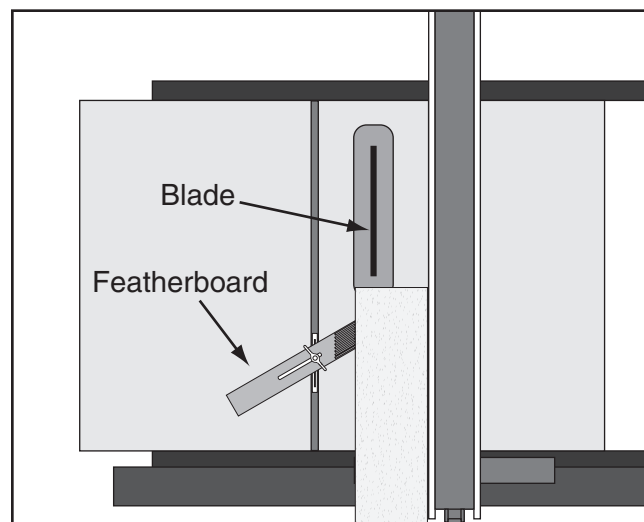

Figure 73. Featherboard installed in miter slot and supporting workpiece for ripping cut.
3. Slide featherboard miter bar into miter slot, making sure fingers slant toward blade, as shown in **Figure 73**.